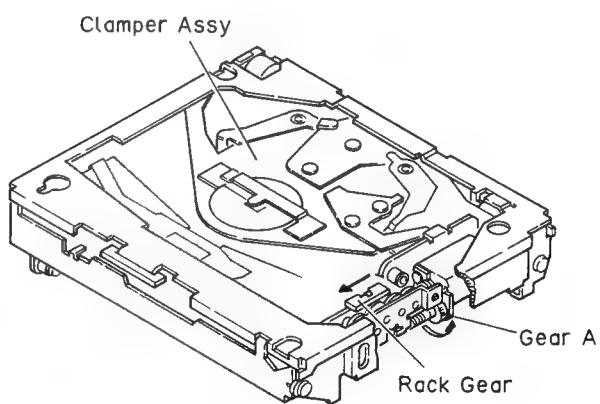

Fig. 13
(Fig.13)
2. Press the rack gear in the arrow direction and engage gears.(Fig.13)
3. Put into the play mode.(The clamper assembly is at low position.)(Fig.13)